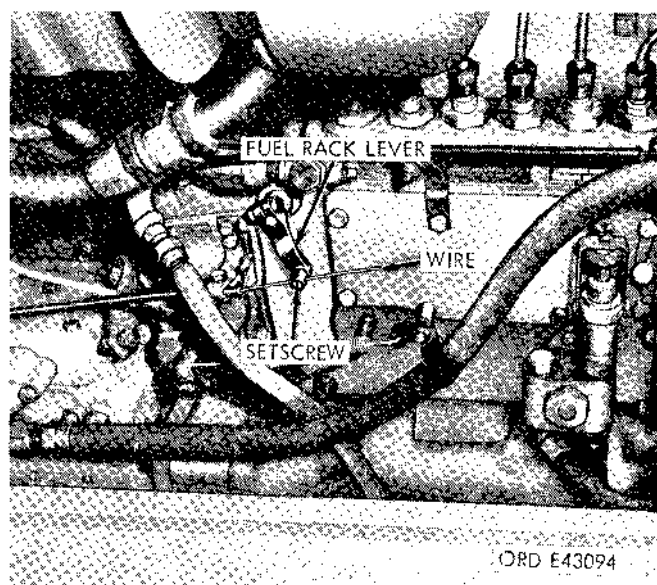

Figure 2-79. Disconnecting fuel shutoff control wire—diesel only.
(1) Loosen the setscrew securing the control wire to the fuel rack lever (fig. 2-79).
- (3) String the control cable wire through the cowl opening to the fuel rack lever. Secure the wire to the lever by tightening the setscrew (fig. 2-79).